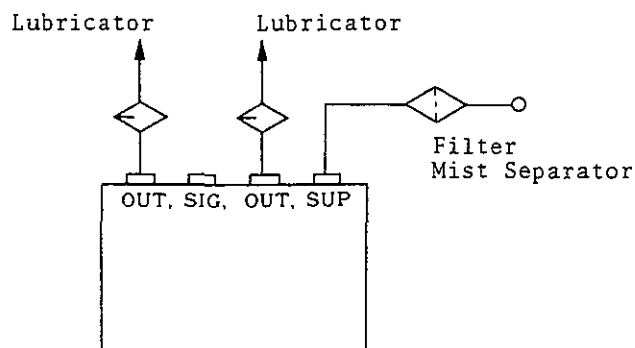

Fig. 9 In case of install Lubricator
- (1) Air line filter or Mist Separator should be used in the supply air line in order to prevent impurities from entering the positioner.
- (2) Do not use lubricator in the supply line because a Nozzle-Flapper system is employed in this positioner. Use a greasy lubricant for actuator. If the actuator requires air line lubrication, install a lubricator in the output air line as shown below: (Fig. 9)